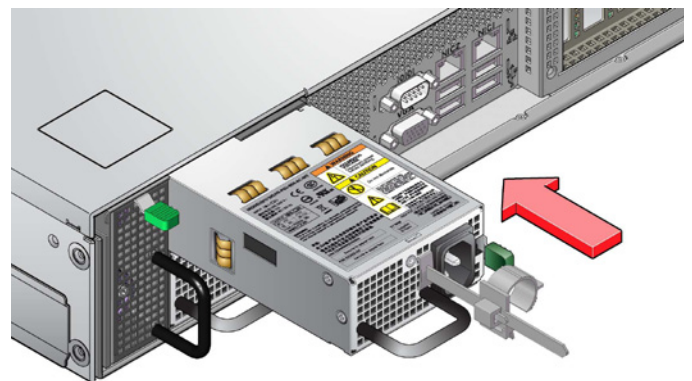

Fig. 33 - Installing a Power Supply Unit (1)
2. Slide the PSU into the mounting cage (Fig. 33). A click should be heard as the securing spring engages.